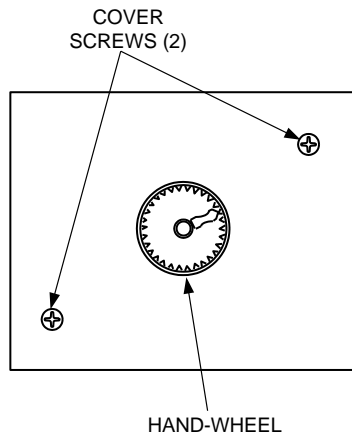

Figure 4-1. Control Valve Electronics Module – Top View
1. Refer to Figure 4-1 and loosen the two (2) captive screws securing the cover on the Electronics Module of the MXG-461 Control Valve.